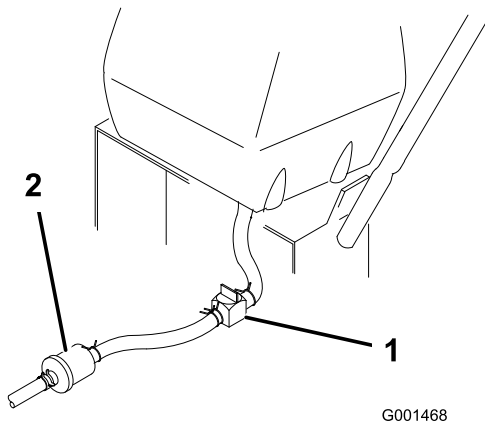

Figure 32
2. Close the fuel shut-off valve at the fuel tank (Figure 32).
3. Squeeze the ends of the hose clamp together and slide it up the fuel line away from fuel filter (Figure 32).
4. Pull the fuel line off the fuel filter (Figure 32). Open the fuel shut-off valve and allow the gasoline to drain into a gas can or drain pan.
3. Close fuel shut-off valve at the fuel tank (Figure 32).
7. Open fuel shut-off valve at fuel tank (Figure 32).